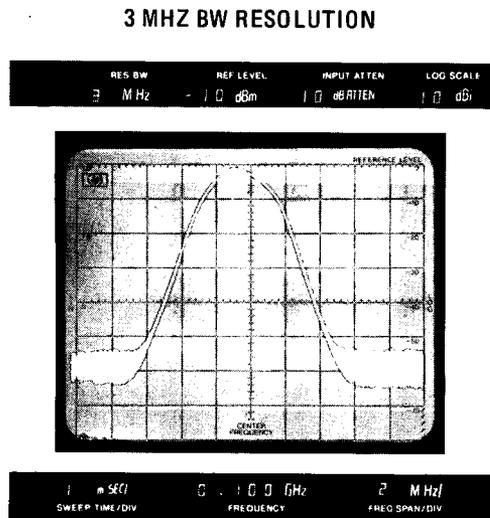

Figure 5-40. 321.4 MHz Bandpass Filter Alignment Spectrum Analyzer Display
- n. Check 100 MHz signal on spectrum analyzer display has a symmetrical bandpass. A typical bandpass shape is shown in Figure 5-40. If bandpass symmetry is worse than shown in Figure 5-40, small adjustments of A37C1 through A37C4 should be performed to improve bandpass shape. However, do not sacrifice more than 1 dB of signal amplitude when adjusting for best bandpass shape (loss of signal amplitude reduces instrument sensitivity).